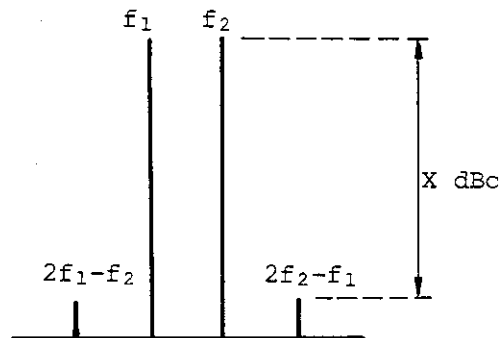

Fig. 12-11 Two-signal tertiary intermodulation distortion
- ① Set the TR4171 input attenuators to 0 dB. Set output levels of power combiner to -30 dBm. Set frequency span and resolution bandwidth to appropriate values for frequency not exceeding 200 kHz (99 kHz and 101 kHz) and for frequency not less than 200 kHz (9.999 MHz and 10.001 MHz). Then conduct test. Measure $= 2f_1 - f_2$ and $2f_2 - f_1$ shown in Figure 12-11.